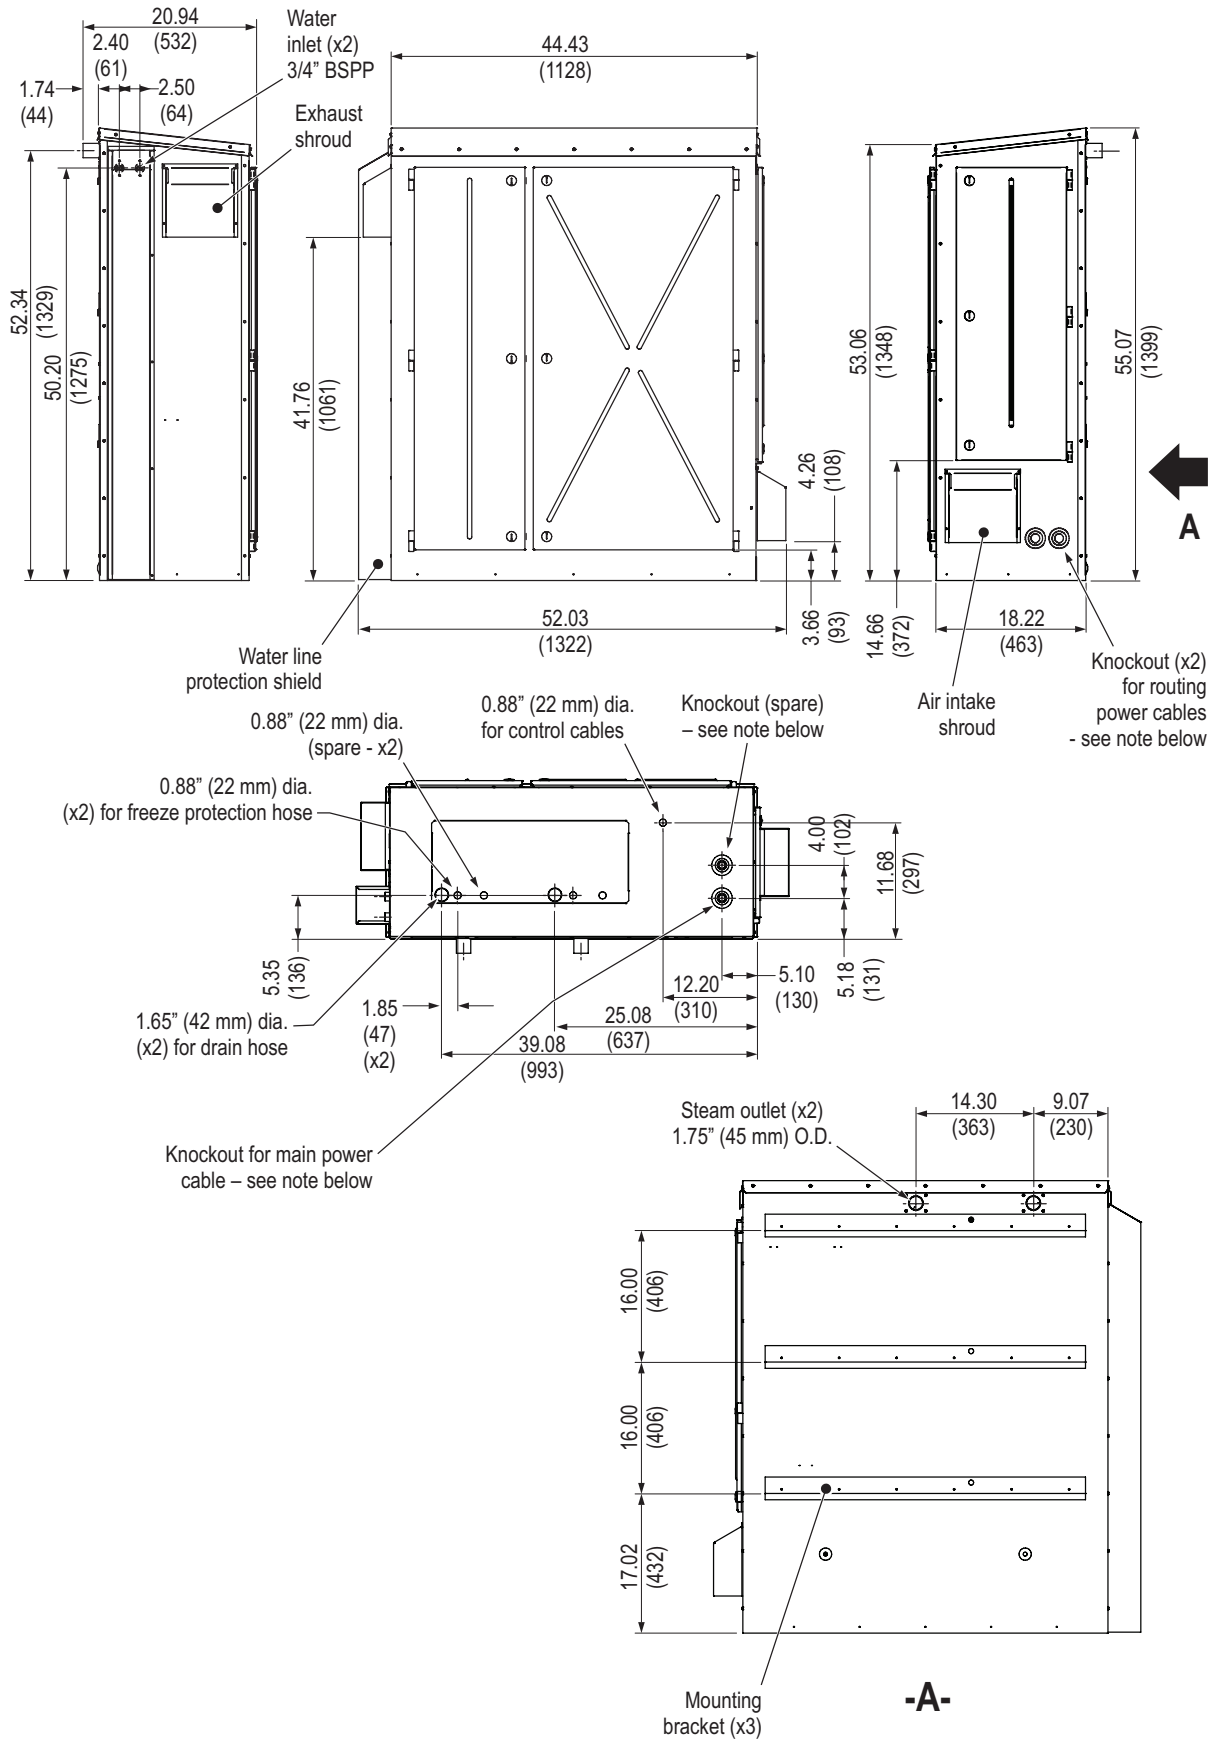

Figure 26: Nortec EL/RS Outdoor Steam Humidifier, Large Housing*
* Nortec EL-OC 050-100 and Nortec RS-OC 010-090. For Nortec RS-OC 090 with two cylinders, refer to Figure 26 on page 64.